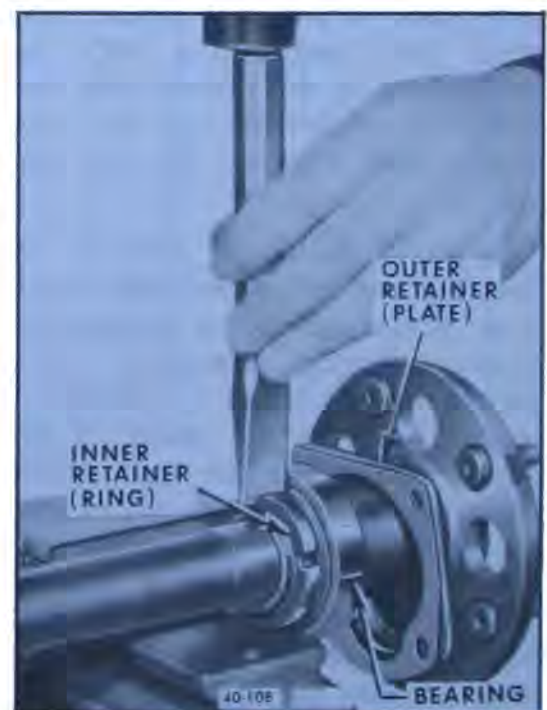

Figure 40-142—Removing Axle Shaft Bearing Retainer
1. Notch bearing retaining ring in 3 or 4 places with a chisel. See Figure 40-142. Retaining ring will expand so that it can be slipped off.